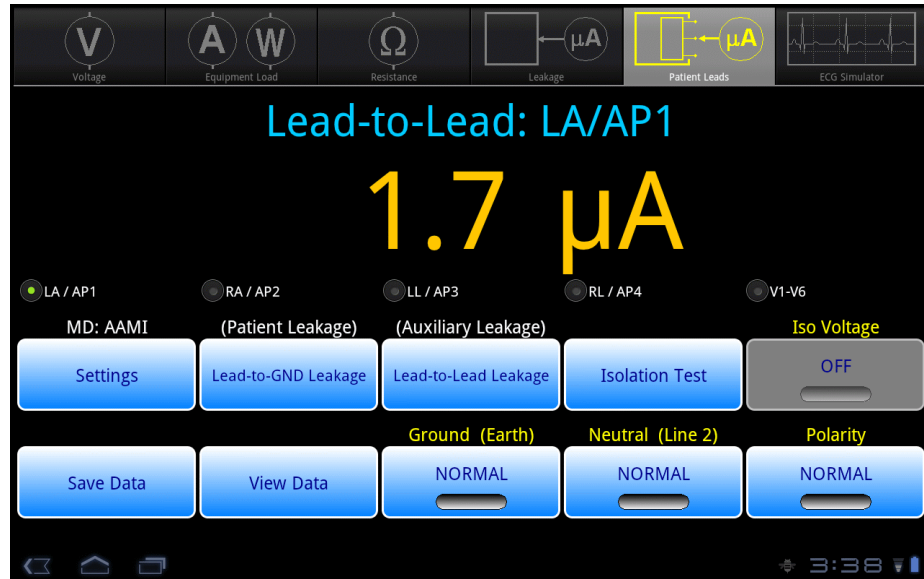
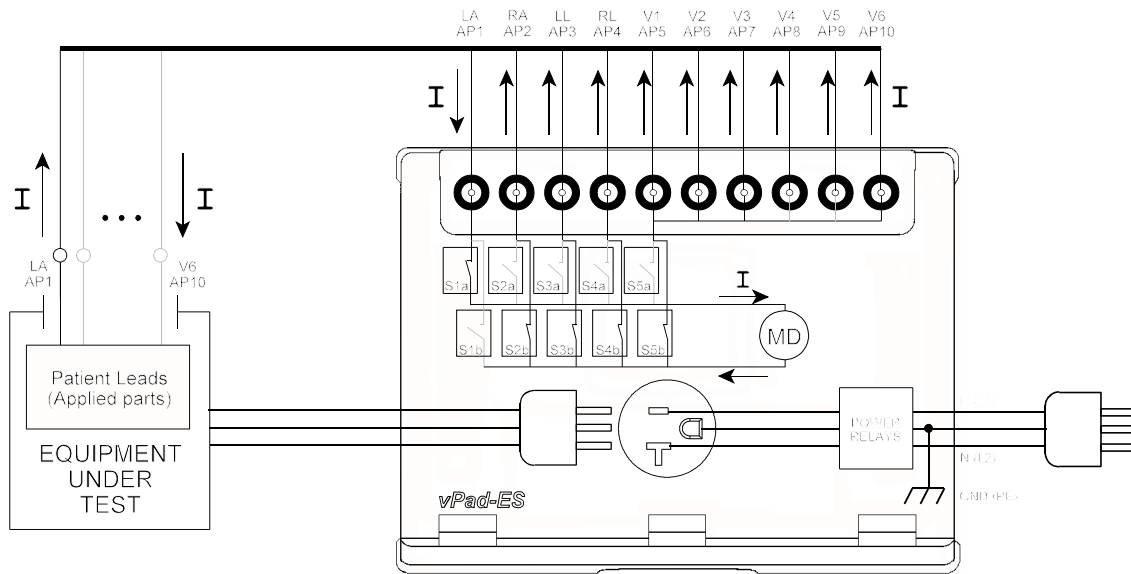

Figure 48 - Lead-to-lead leakage display.
Figure 49 - Lead-to-lead leakage test.
Connect the EUT as previously instructed in Section 4.9.1. Referring to **Figure 48**, select the lead to be tested by pressing the corresponding radio button under the numeric readout. This closes a corresponding switch S_{1a} to S_{5a} of **Figure 49**, connecting the measuring device (MD) from the selected lead to the other leads via S_{1b} to S_{5b} . As described in Section 4.9.1, V1-V6 are shorted together inside vPad-ES and so are treated as a single lead. Leakage current is measured over three ranges (200, 2000 or 20000 μA full scale), with the range being automatically selected by vPad-ES, as required.